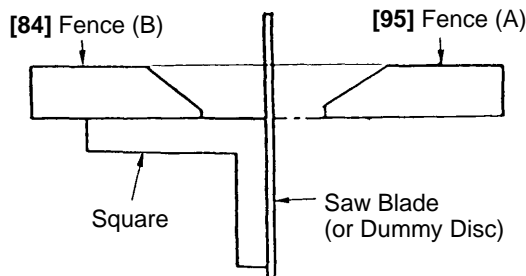

Fig. 4
After disassembly/reassembly or replacement of the Base Assembly [66], Turn Table [62], Fence (A) [95], Fence (B) [84], Holder (A) [11], or the Hinge [16], or after disassembly/reassembly or adjustment of the Bushes [10], it is necessary to perform necessary adjustments to ensure that the fences are positioned at exact right angles to the saw blade (or, for adjustment purposes only, a dummy disc). As illustrated in Fig. 4, place a square so that it is flush against the side